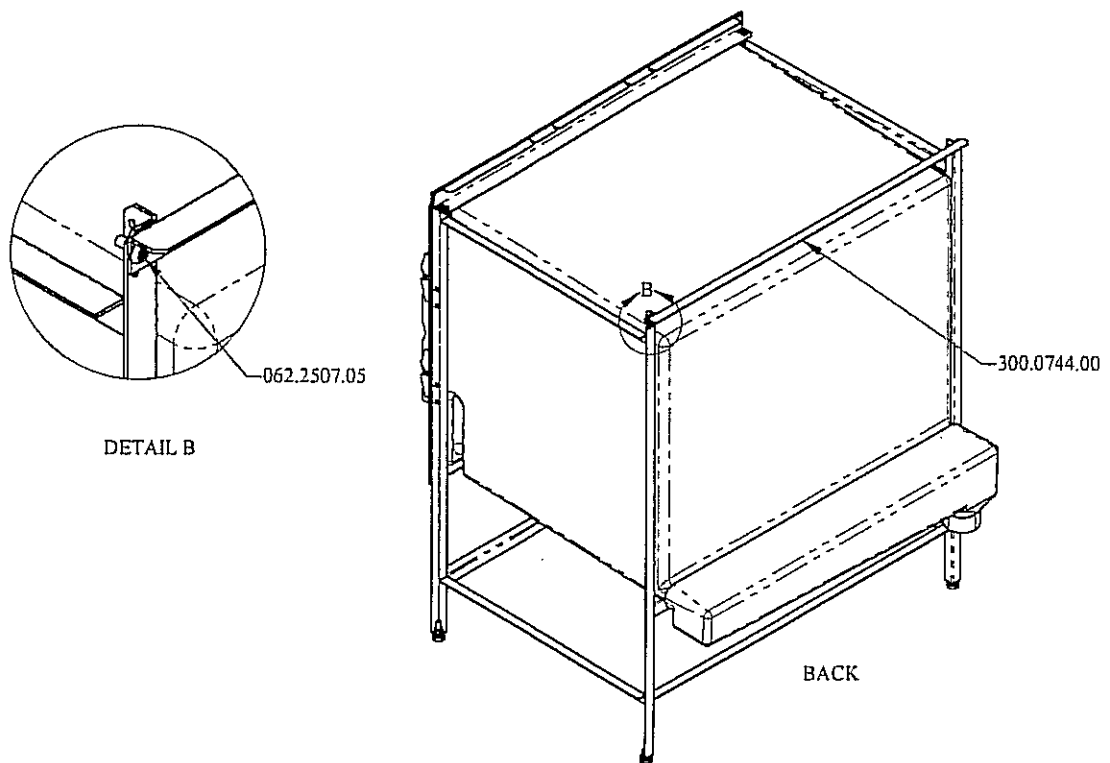

Figure 2
Using the two (2) existing .250-20 x .750 Truss Head Phillips Screws (062.2507.05) that were removed in Figure 2. Place one (1) each through each slot, located on each end of the Top Cage Channel-Back Support (300.0741.00). Then start each of these screws in the lower holes of the frame, as shown in Detail C. **Do not** tighten at this time.